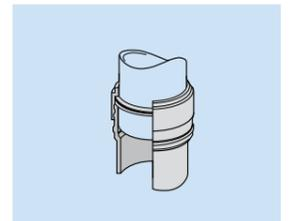

Fig. 71
- Clean pipe with 9101 Cleaning Fluid (Fig. 71).
- Seal ring ref. 9149 for 108mm metric copper to BS 2871
- Seal ring ref. 9145 for 4" imperial copper to BS 659